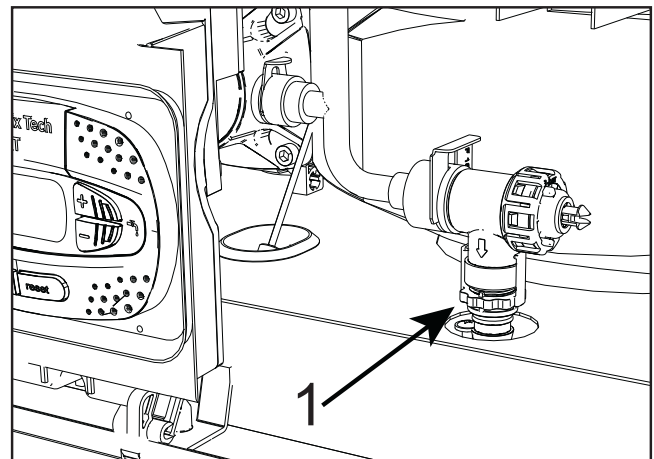

fig. 17- Safety valve with drain faucet
To drain the system, turn the ring nut (ref. 1 - fig. 17) counter-clockwise to open the cock. Do not use any tools; use hands only.